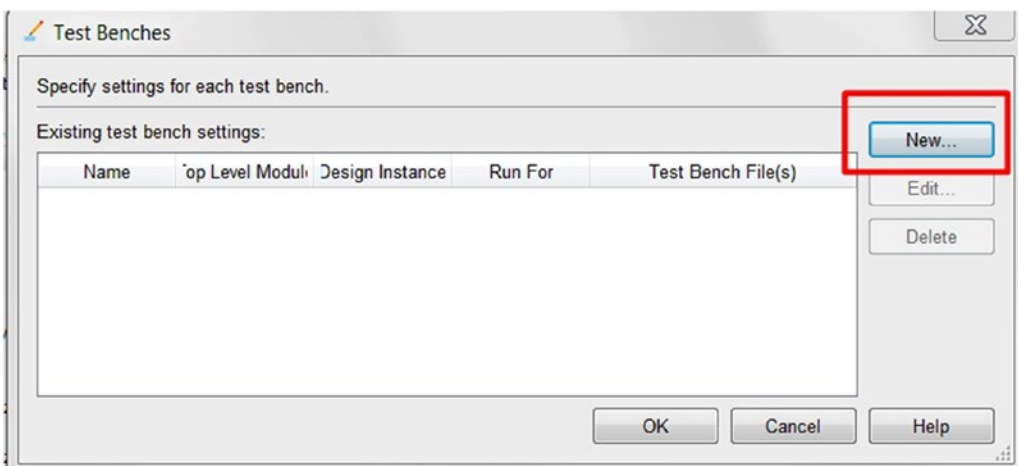

Figure 13-27. Test Benches list
5. Open the Test Benches window pop-up and click New... (Figure 13-27)